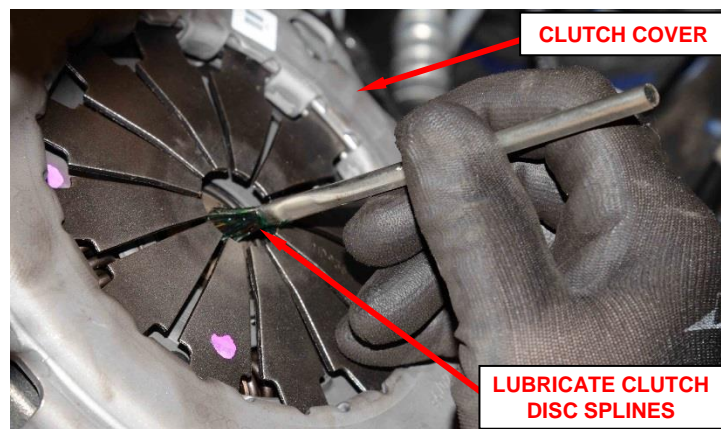

Figure 67 – Lubricate Clutch Disc Splines
81. Lubricate the surface of the clutch disc splines with Mopar® high temperature bearing grease or equivalent (Figure 67).